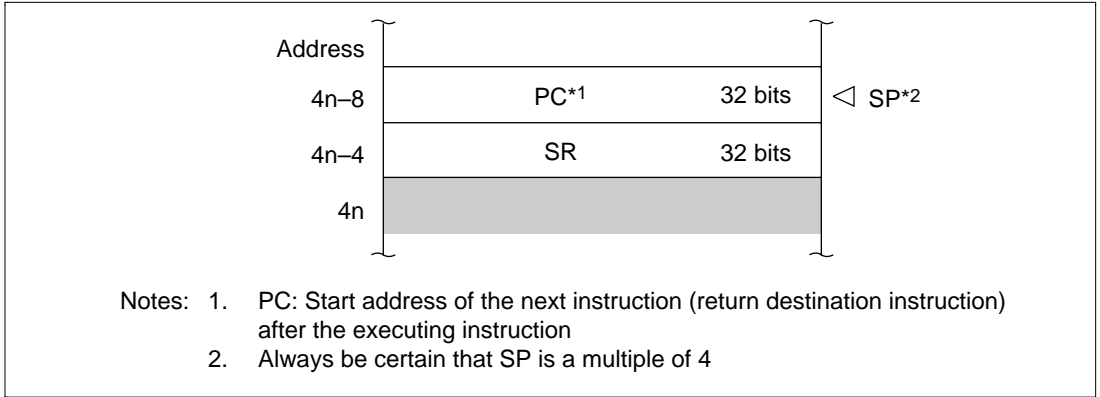

Figure 6.4 Stack after Interrupt Exception Processing
3. The interrupt controller compares the priority level of the selected interrupt request with the interrupt mask bits (I3–I0) in the CPU’s status register (SR). If the request priority level is equal to or less than the level set in I3–I0, the request is ignored. If the request priority level is higher than the level in bits I3–I0, the interrupt controller accepts the interrupt and sends an interrupt request signal to the CPU.
4. The CPU detects the interrupt request sent from the interrupt controller when it decodes the next instruction to be executed. Instead of executing the decoded instruction, the CPU starts interrupt exception processing (figure 6.4).
6. The priority level of the accepted interrupt is copied to the interrupt mask level bits (I3 to I0) in the status register (SR).
Figure 6.4 shows the stack after interrupt exception processing.